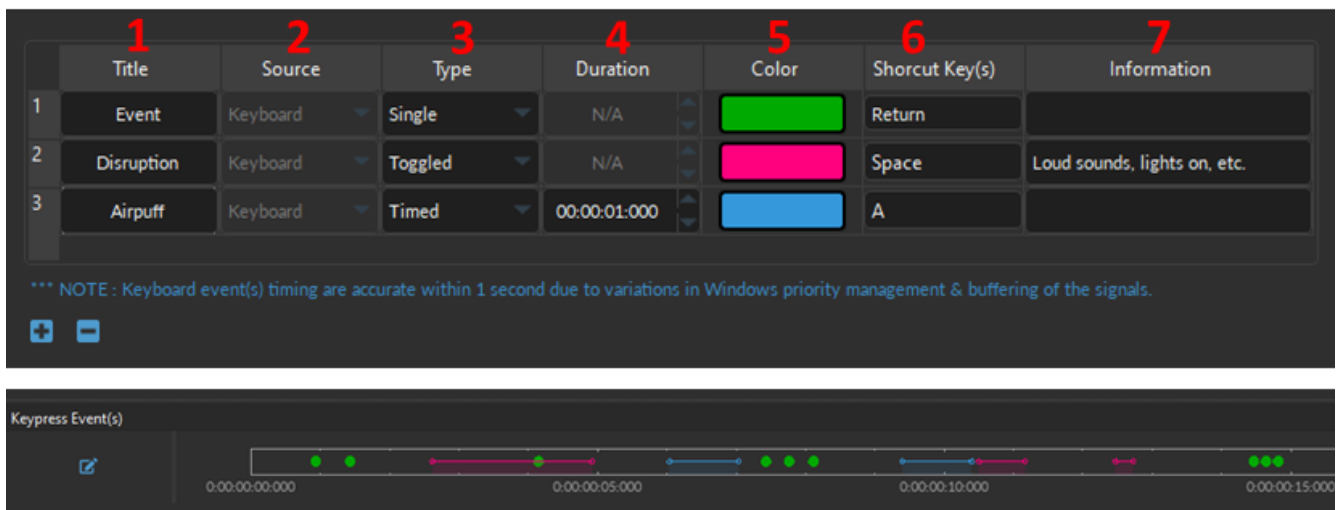

Figure 7.26: Channel(s) configuration window, Keypress Event(s)
The following are the configurable parameters of a **Keypress Event**, per Fig. 7.26:
6. The **Shortcut Key(s)** can be any keyboard key, including space bar, enter, backspace, any letters, number and special characters (*, !, ? etc.). To specify the key, click inside the *Shortcut Key(s)* cell, then press the keyboard key of choice. If a key was properly set, it will appear in the *Shortcut Key(s)* cell (as in Fig. 7.26, column 6).